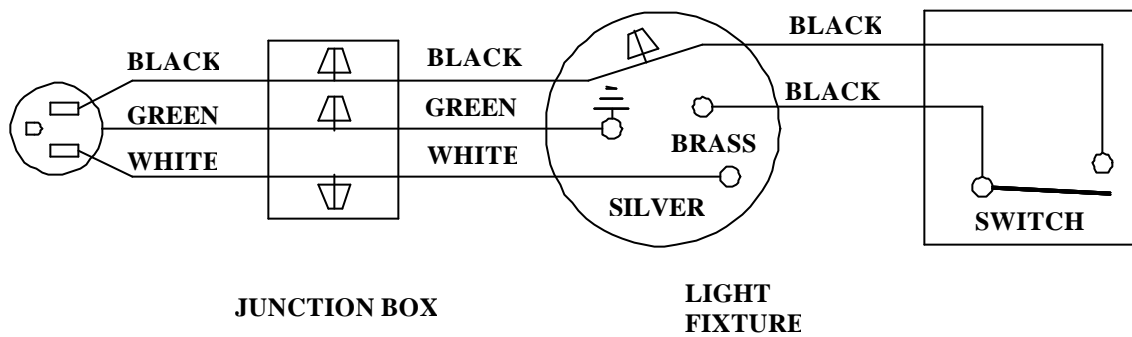
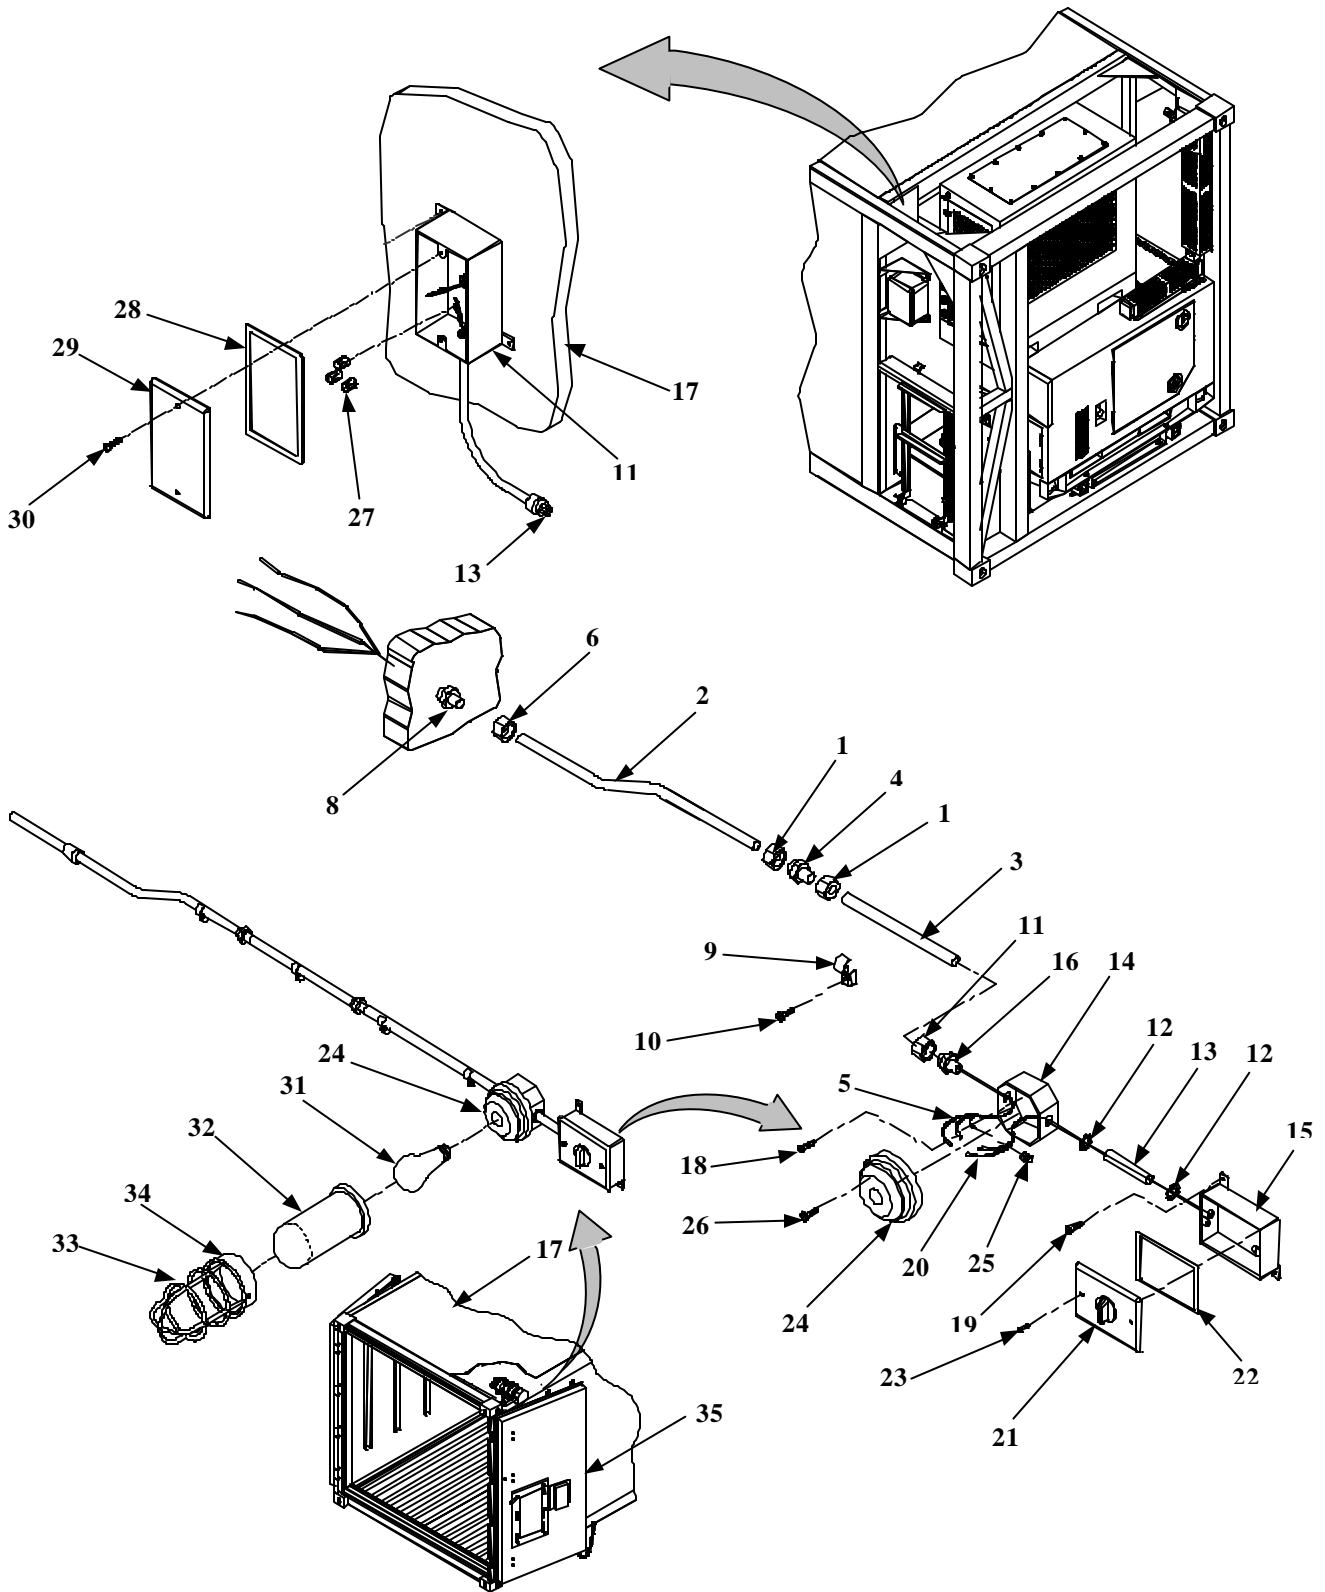

Figure 2. Wiring Schematic
Figure 3. Assembly and Installation
1. Slide two conduit nuts (1, Figure 3) over conduit (2 and 3).
2. Install conduits (2 and 3) into union (4) and secure with two conduit nuts (1).
3. Route wiring (5) through conduits (2 and 3).
4. Slide conduit nut (6) over conduit (2).
5. Route wiring (5) protruding from conduit (2) through front panel (7), install conduit (2) into adapter (8) and tighten conduit nut (6).
6. Install seven clamps (9) and screws (10) to secure conduits (2 and 3).
7. Slide conduit nut (11) over conduit (3).
8. Install two conduit lock nuts (12) on conduit (13).
9. Install conduit (13) on electrical box (14) and switch box (15).
10. Install adapter (16) in electrical box (14).
11. Align electrical box (14) and switch box (15) with mounting holes on container (7). Adjust boxes until they align with mounting holes; tighten two conduit locking nuts (12).
12. Route wiring (5) into electrical box (14); install electrical box on conduit (3) and tighten conduit nut (11).
13. Install two screws (18) to secure electrical box (14) and two screws (19) to secure switch box (15).
14. Route wiring (20) through electrical box (14) into switch box (15).
15. Connect wiring (20) to switch (21) (reference Wiring Schematic, figure 2).
16. Install gasket (22), switch (21) and two screws (23).
17. Connect wiring (5 and 20) and fixture (24) using three wire nuts (25) (reference Wiring Schematic, figure 2).
18. Install fixture (24, figure 3) and two screws (26).
19. From outside the container (17), connect wiring (5) using three wire nuts (27) (reference Wiring Schematic, figure 2).
20. Install gasket (28, figure 3), cover (29) and two screws (30).